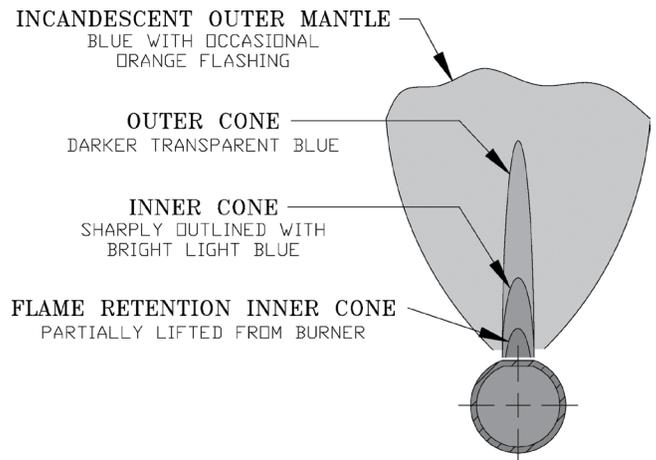

Figure 12-4: Main Burner Flame
12. Check Main Burner Flame - See Figure 12-4. Flame should have a clearly defined inner cone with no yellow tipping. Orange-yellow streaks caused by dust should not be confused with true yellow tipping.